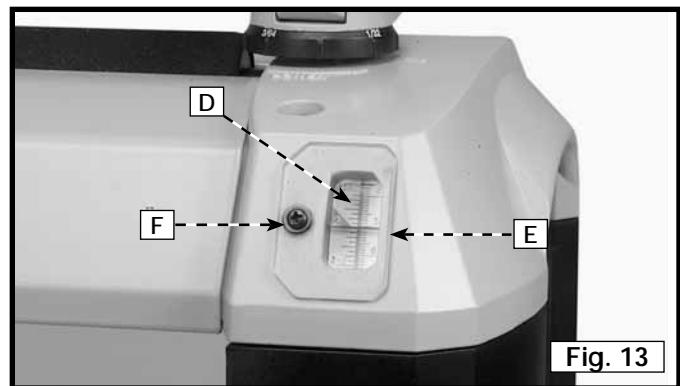

Fig. 13
A dual English/Metric scale (D) Fig. 13 and pointer (E) is located on the front of the machine. This scale indicates the thickness of the finished workpiece. To adjust the pointer (E), plane a piece of wood through the machine. Measure the thickness of the workpiece. If an adjustment is necessary, loosen the screw (F) and adjust the pointer (E). Tighten the screw (F).